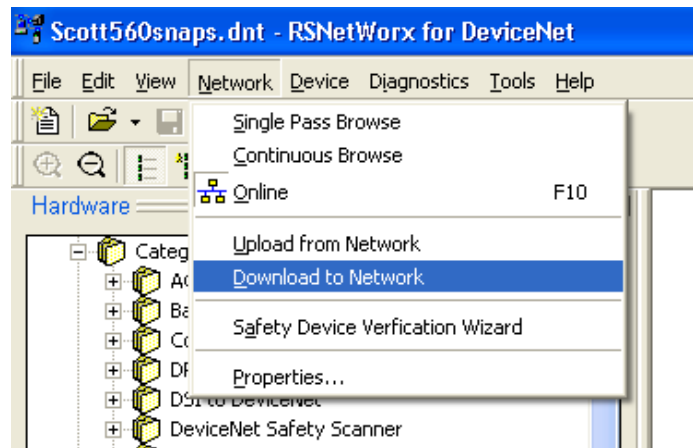

Figure 3-21: Network Download Confirmation Prompt
- Download the configuration to the scanner card, in order to commission the network. In the prompt that appears (Figure 3-21), click Yes to continue. Note that some scanner cards may require power down for changes to take effect.